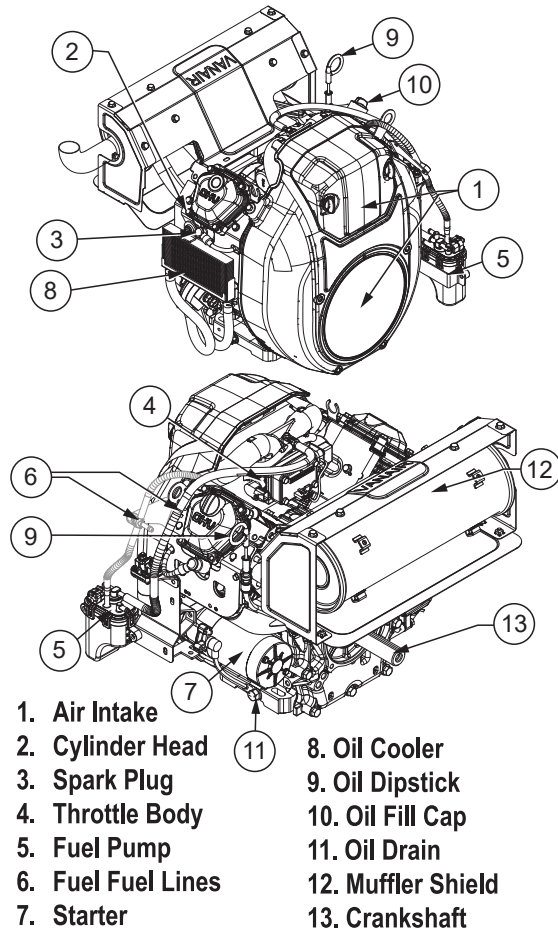

Figure 3-3: VNR750EFI Location Drawing
5. Do not operate the engine beyond its maximum limit ratings. Refer to the specifications **Figure 3-3: VNR750EFI Location Drawing** for more information. Identification of Parts.
6. Please see **Figure 3-1, Figure 3-2, Figure 3-3** on the following pages for location and identification of major parts for the VNR Engines.
8. Engine oil volume is specified under **Figure 3-3: VNR750EFI Location Drawing**.
9. Fuel volume is listed in Specifications. See **Figure 3-3: VNR750EFI Location Drawing**.